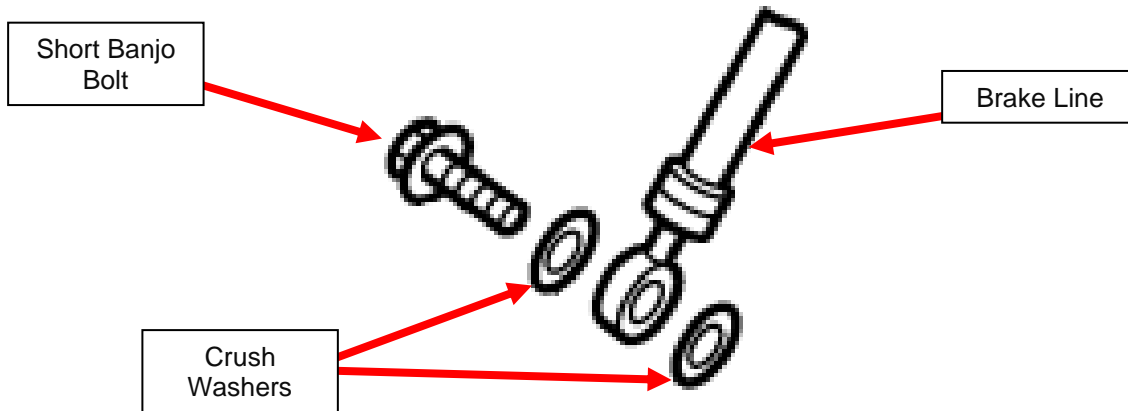

Figure 5
14. Locate (2) two Copper Crush Washers, and (1) one **SHORT** Banjo Bolt. Place a Crush Washer on the Banjo Bolt, and insert it through the end of the new Brake Line, and install the other Crush Washer on the bottom of the Banjo Bolt. *Figure 5.*